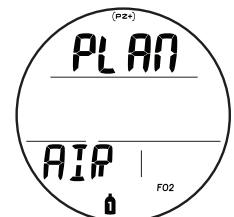

Fig. 39A - PLAN LEAD-IN (FO2 Gas 1 set for Air)
**Plan Lead-in**, information includes (Fig. 39A, B):